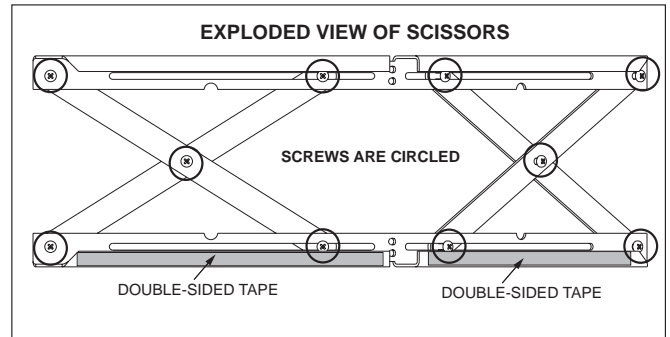

Figure 17.1
1. The 10 screws on each set of scissors will already be loose when shipped. **Figure 17.1.**